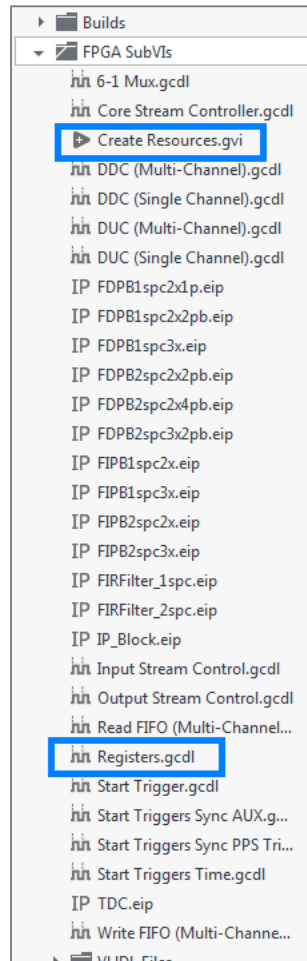

Figure 11: Snapshot of Required Files
3. Copy two VIs from the new project into the original project. Refer to Figure 11.